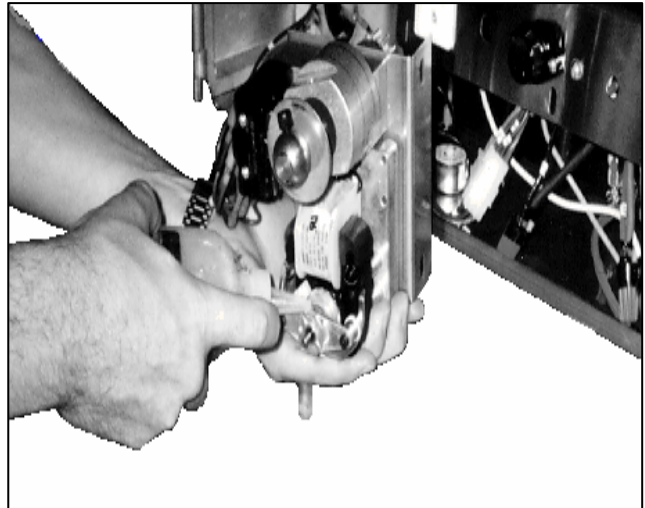

Figure 2-4. Lubricating the Conveyor Drive Motor.
5. Apply 4 to 6 drops of SAE 30-weight machine oil through the lubricating hole in the bearing cap until the felt pad is saturated. See Figure 2-4.